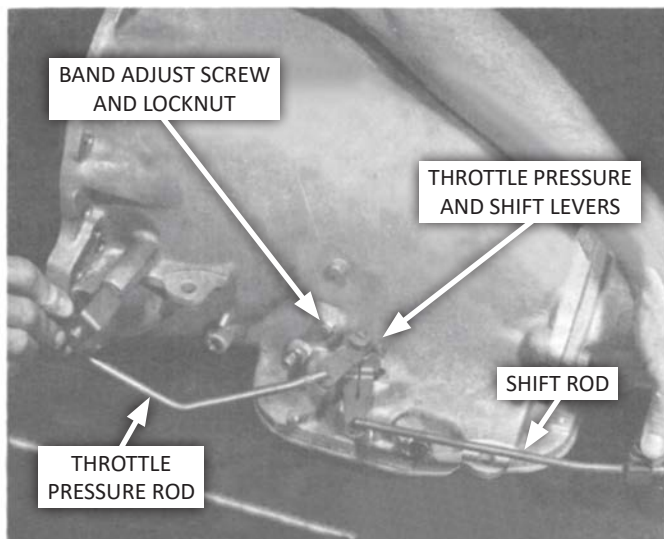

FIG. 1
- 2. Disconnect the throttle pressure and shift linkages (Fig 1).** First loosen the throttle pressure lever pinch bolt, remove the lever from its shaft, and carefully move the lever and rod aside, allowing them to hang free.
4. **Adjust the front band.** Loosen the band adjustment locknut (Fig. 1). Tighten the adjusting screw to **72 in-lbs** (snug), then back off the adjusting screw 2 full turns. Hold the band adjusting screw, and tighten the jam nut securely.
20. Install the shift lever over its shaft and tighten the pinch bolt (Fig. 1). Then install the throttle pressure lever over its shaft and tighten the pinch bolt.